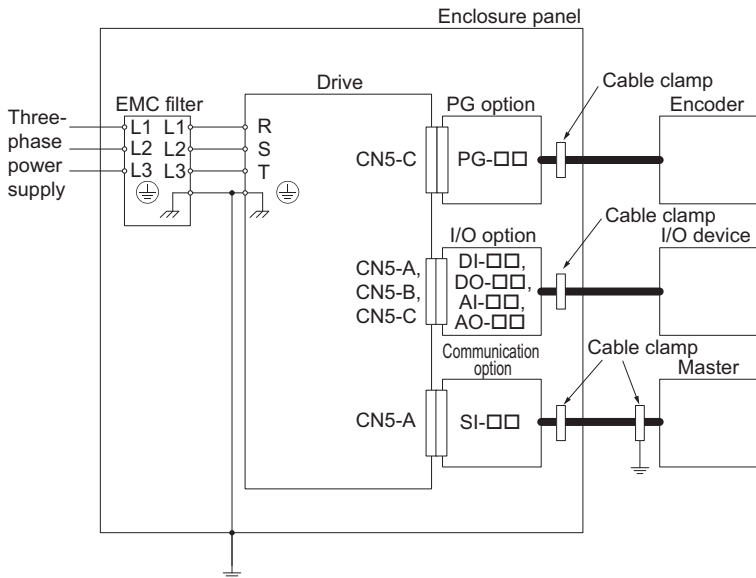

Figure 27 Option Installation for CE Compliance
2. Keep wiring as short as possible and ground the largest possible surface area of the shield to the metal panel according to Figure 27.